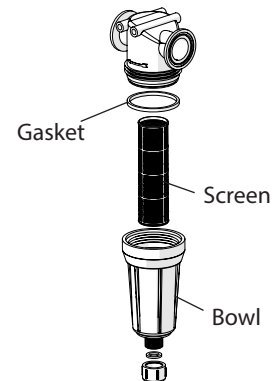

Figure 1: In-line filter
- NOTE: Be careful not to lose the gasket in the filter bowl (Figure 1). A missing gasket will cause the strainer to leak.